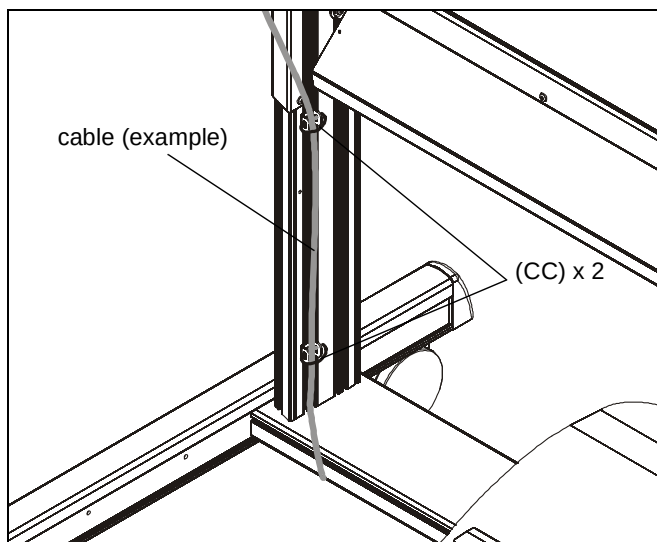

Figure 12
3. Route cables through cable clips and use cable ties (CC) to secure cables along side column. (See Figure 12)